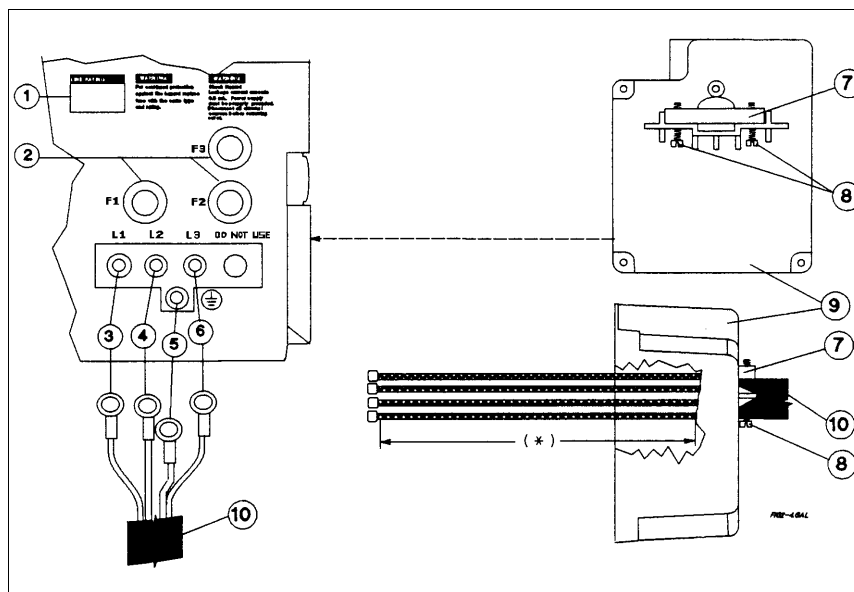

Figure 2-5. Connecting the Series 668xA Power Cord
See Figure 2-5 and proceed as follows:
1. Check the line fuses (②, Figure 2-5) as follows:
- a. Examine the **FUSES** label ① on the rear panel.
- b. Unscrew the line fuse caps (②) from the rear panel and verify that all fuses are as specified on the label. Replace the fuses.
2. Open the line clamp ⑦ and insert the line cord ⑩ through the opening.
3. Position the line cord so that the clamp is near the end of the outside insulating sheath. Tighten the screws ⑧ securing the clamp.
*Phase 1 ③ to L1. Phase 2 ④ to L2. Phase 3 ⑥ to L3.
5. Secure the ground wire ⑤ to the chassis earth ground stud.